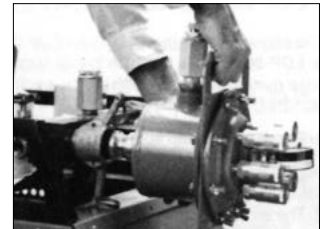

Figure 4
3. If the V60 extension hose is not required, assemble the pod(s) directly to the pump's manifold. The pods should be connected so that the handle and pressure relief valve are on top of the pod (See Figure 4).